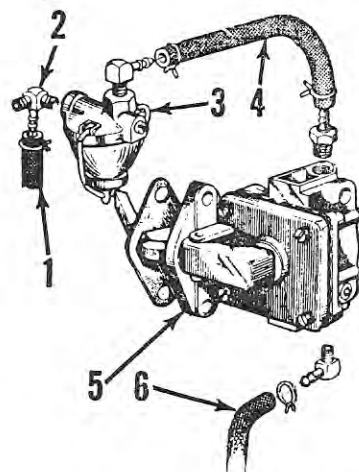

Fig. H6 — Partially exploded view of fuel pump and lines.
FUEL PUMP. The diaphragm type fuel pump is mounted on forward side of camshaft cover and driven by a camshaft lobe. Refer to Fig. H6. Fuel pressure should be at least 1 pound when tested in the line (4) between fuel pump and strainer.